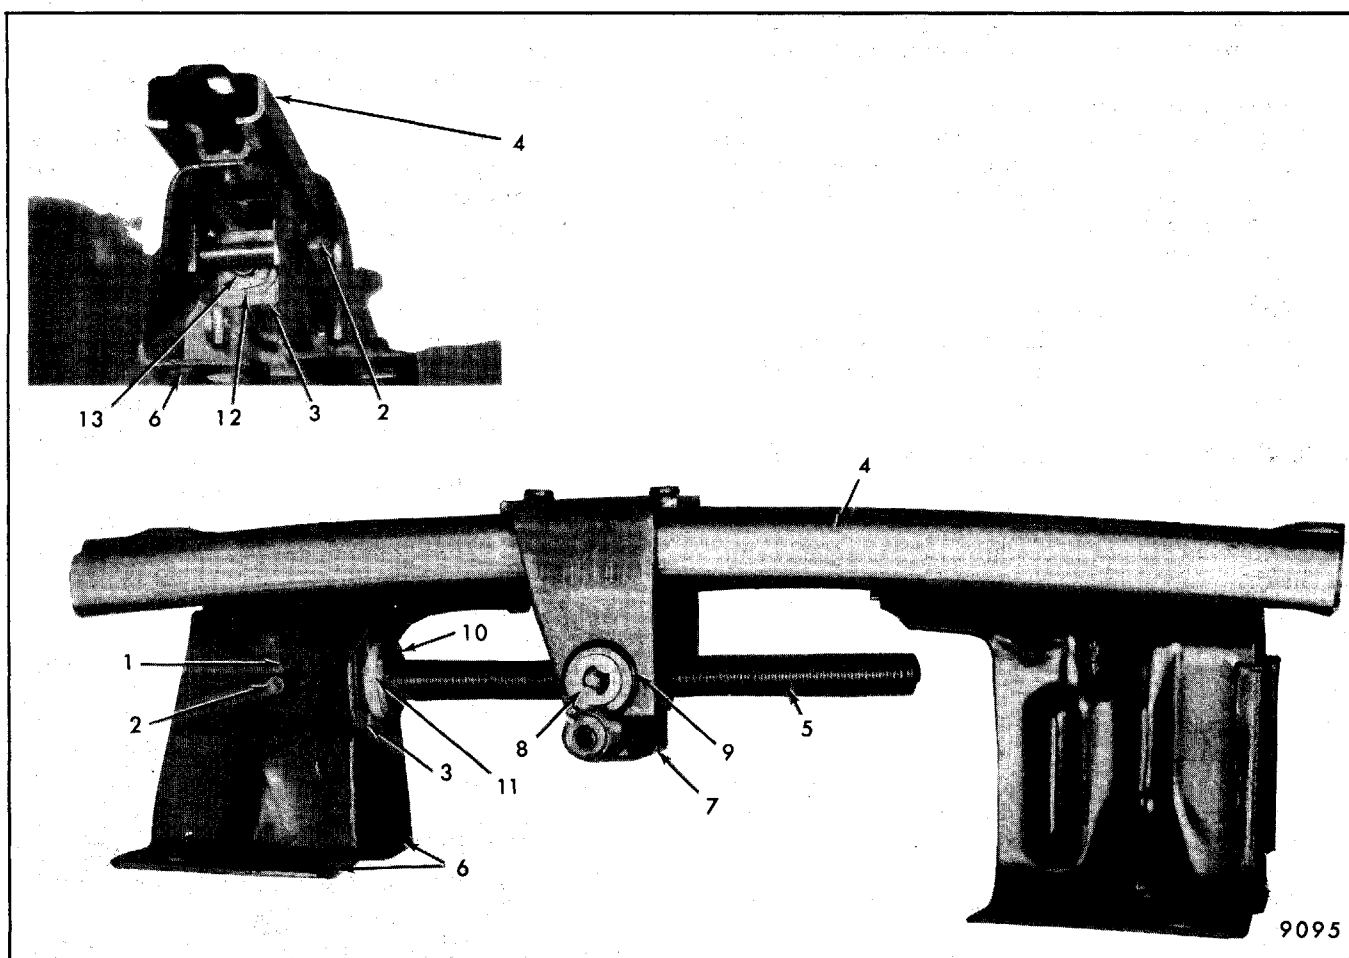

Fig. 9-23-Power Operated Horizontal (Two-Way) Seat Adjuster Components
Removal and Installation (Refer to Fig. 9-23)
2. Using a suitable tool (preferably a clutch type screwdriver or equivalent), remove two shoulder screws (clutch type) securing gearnut to upper channel to seat adjuster assembly (Fig. 9-23).